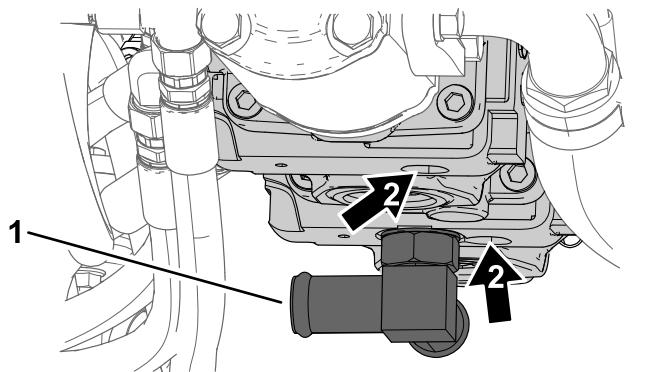

Figure 17
8. Rotate the fitting counterclockwise so that the flat side of the fitting aligns with the relief valve port opening (Figure 17).
2. Lower relief valve (2)
9. Remove the 2 lower relief valves (Figure 17).